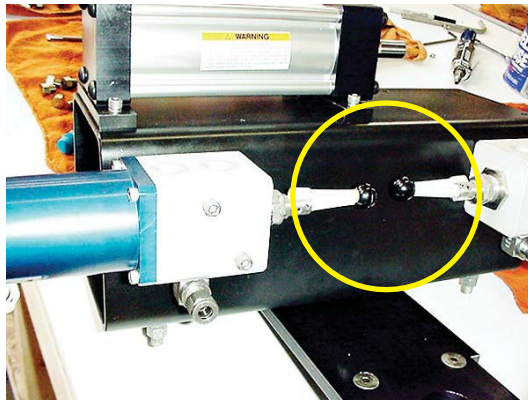

Figure C.4-2 Solenoid Manual Override Levers (Position B)
2. If the unit is fail in place during power loss, place both solenoid valves in position B as shown in Figure C.4-2.